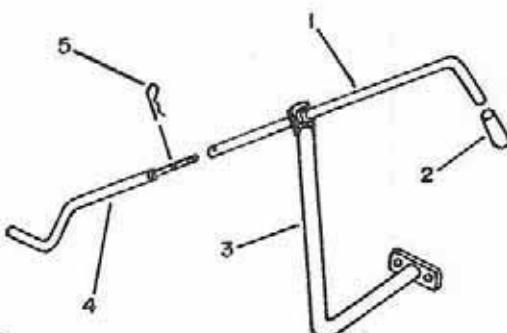

FIGURE 16
- g) Install ½ X 3" handle grip (fig. 16, item 2) on angle handle (item 1).
- h) Insert handle through the grommet on support (fig. 16, item 3) and insert on handle extension (item 4). Secure with 2.5mm hair pin (item 5).
- b) Install ½ X 3" handle grip (fig. 16, item 2) on angle handle (item 1).
- c) Insert handle through a grommet on the support (fig. 16, item 3) and insert on handle extension (item 4). Secure with 2.5mm hair pin.